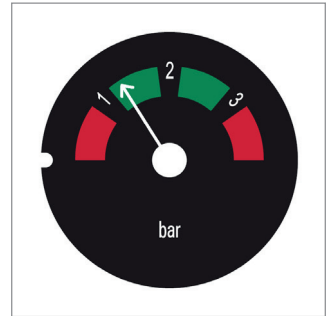
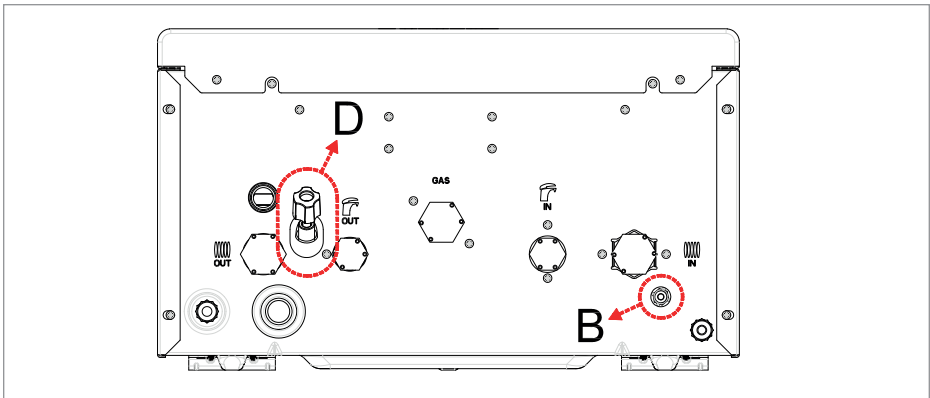

Figure 2. Manometer 1,2 bar
Figure 3. Bottom view of Super Fit combi boiler
Manometer is included in Super Fit gas fired combi boilers. After all connections (electric, fittings and flue) are completed, system could be filled by means of filling tap (D) which is positioned at left-bottom side of the boiler (Figure 3). Filling operation must last until 1.2 bar value is seen on the manometer (Figure 2).
If the water pressure falls down under a certain value, E04 error is seen on the screen. In order to increase the pressure value, open the filling tap (D) in Figure 3. Check the pressure value from the manometer to avoid filling the system excessively.
If water pressure exceeds 3 bars, discharge the proper amount of water by means of drainage tap (B) (Figure 3)